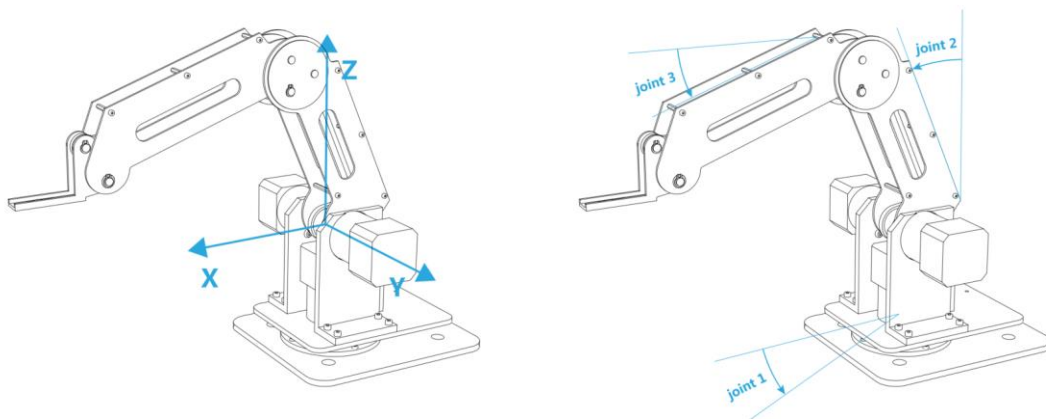

Figure 3.1 Reference Frame of Dobot
- The difference between 3 and 6 is what you send to the robot arm, joint angle or coordinate. The reference frame has been introduced in Figure 3.1.